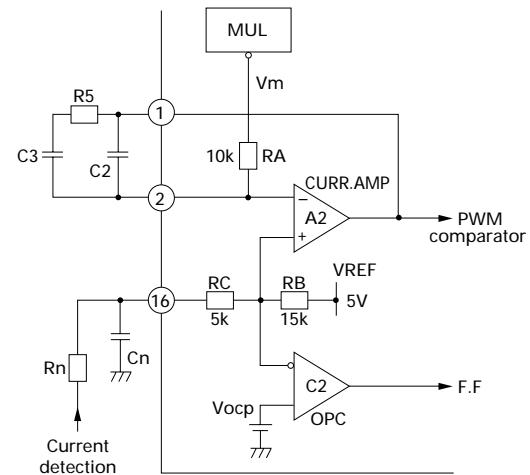
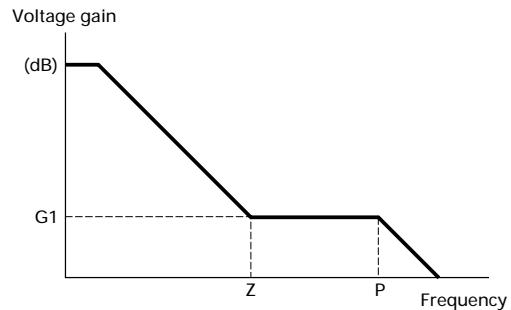

Fig. 3 Current error amplifier and overcurrent limiting circuit
Fig. 4 Voltage gain-frequency
The current error amplifier forms a current loop to change the input circuit current into sinusoidal waves. As Fig. 3 shows, the multiplier output is connected to pin 2 (IIN-) through a resistor (RA) to input the reference current signal. Pin 16 (IDET) is a current input terminal. Design the circuit so that the voltage at pin 16 will be within the range from 0 (GND potential) to -1.0V. Connect a phase correction resistor and capacitors across pin 1 (amplifier output) and pin 2. See Fig. 4 for the expected gain characteristics of the circuit shown in Fig. 3.
As Fig. 3 shows Vm is internally connected to pin 2 (IIN-) of the current error amplifier A2 through a 10kΩ resistor. (See the characteristic curve, page 66 for the input and output characteristics of the multiplier.)